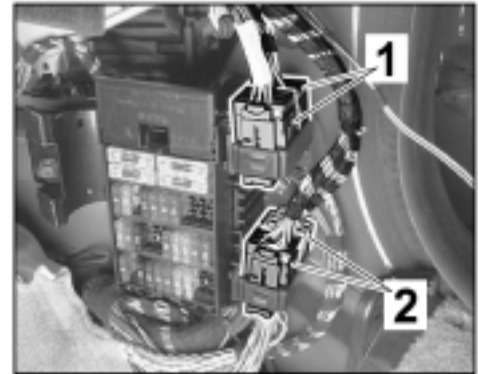

Figure 32
- 5.5.2 Disconnect plug connections for door connection point ⇒ *Figure 32 -1-* and plug connections for wire harness for dashboard ⇒ *Figure 32 -2-*.